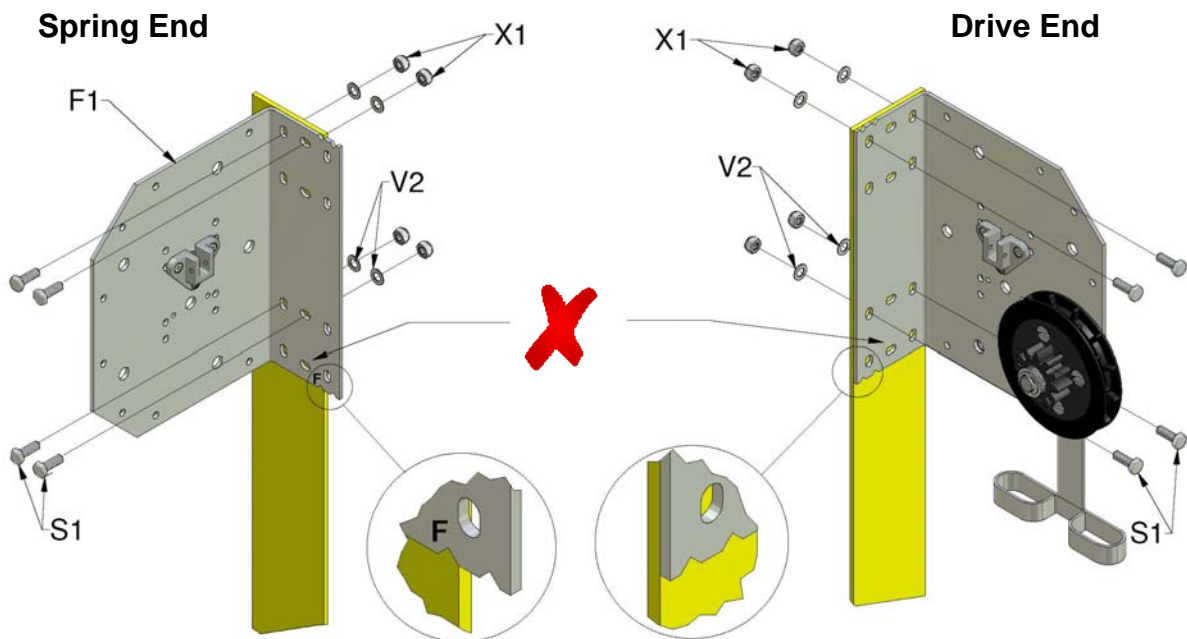

Figure 3, Top Bracket Positioning
2. Using the template as a drilling guide, fit the free end bracket (F1) and drive end bracket (E1) at the required height with M10 fixings (S1). Do not use the bottom set of holes, the fixings may interfere with the rolling action of your door. These brackets have been pre-assembled to match the position of the operating chain when your door was ordered. The door has been designed such that the tops of the guide rails are fitted directly underneath the brackets (Figure 3), aligning with the letter 'F' for the free-end bracket and the bracket edge for the drive end. When fitting the brackets it is essential that they are level and upright.